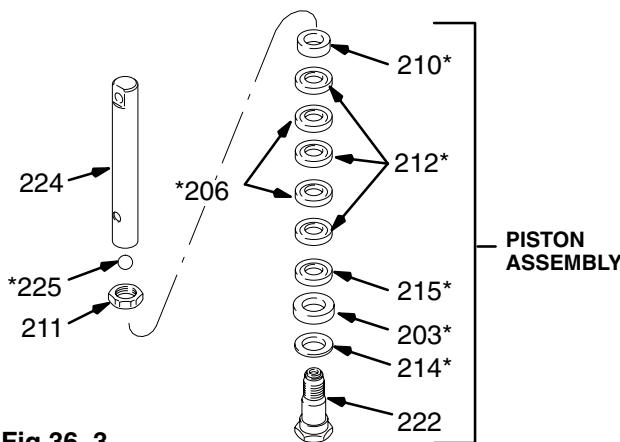
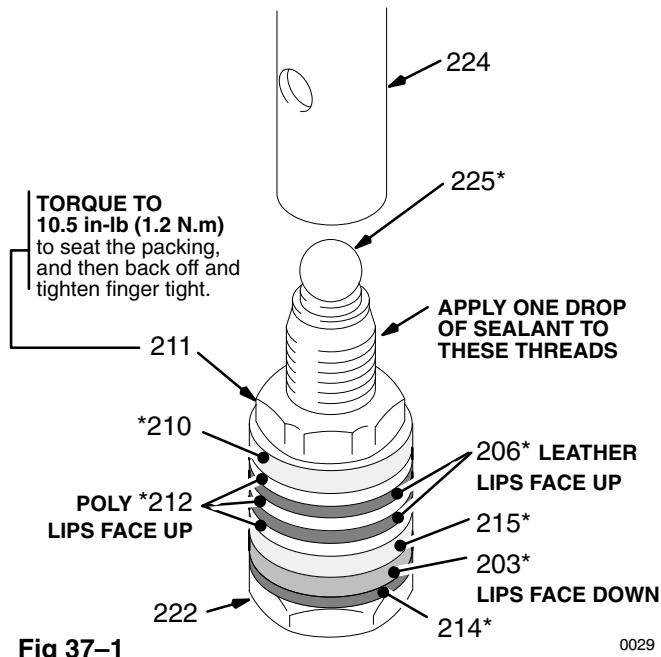

Fig 36-3
Fig 37-1
7. Clamp the flats of the piston rod in a vise. Loosen the retaining nut (211). Unscrew the piston valve (222) from the rod. Remove all parts from the piston valve (222). See Fig 36-3.
8. Remove and clean the sleeve (218). Use ONLY the special sleeve removal tool, P/N 222-586.
**NOTE:** Alternate leather and plastic packings as shown in Fig 37-1. The lips of the throat "V" packings must face down. The lips of the piston "V" packings must face up. The lips of the U-cup seal (203\*) face down. Incorrect installation damages the packings and results in pump leaking.
1. Check the outside of the piston rod (224) and the inside of the sleeve (218) for scoring or scratches. If these parts are damaged, new packings will not seal properly. Replace these parts if needed.
2. Stack the backup washer (214), seal (203\*), female gland (215\*), alternate packings (212\*, 206\*), and then male gland (210\*) onto the piston valve (222). See Fig 36-3.
3. Tighten the packing retaining nut (211) against the piston valve (222) to 19 ft-lb (27 N.m).
**Note the alignment** of the piston (222) to the packing retainer nut (211). Maintain this alignment through Steps 5, 6 and 7.
4. Place the ball (225) on the piston valve (222). See Fig 37-1.
5. Apply one drop of adhesive, supplied, to the piston valve threads. Then hand tighten the valve assembly into the piston rod just until the nut (211) contacts the rod. See Fig 37-1.